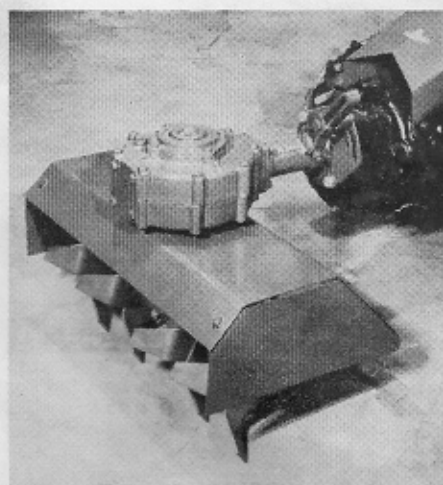

Figure 31
6. Rotate the Cultivator to the position shown in Figure 31. In this position the Tines will cut in the same direction (clockwise) as the forward movement of the Tractor.